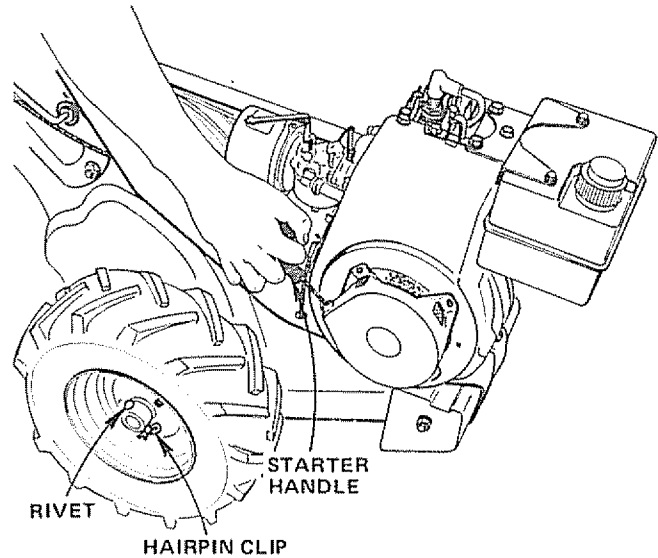

FIGURE 14
- Grasp Starter Handle (Fig. 14) and pull rope out slowly until engine reaches start of compression cycle (rope will pull slightly harder at this point). Let rope rewind slowly.